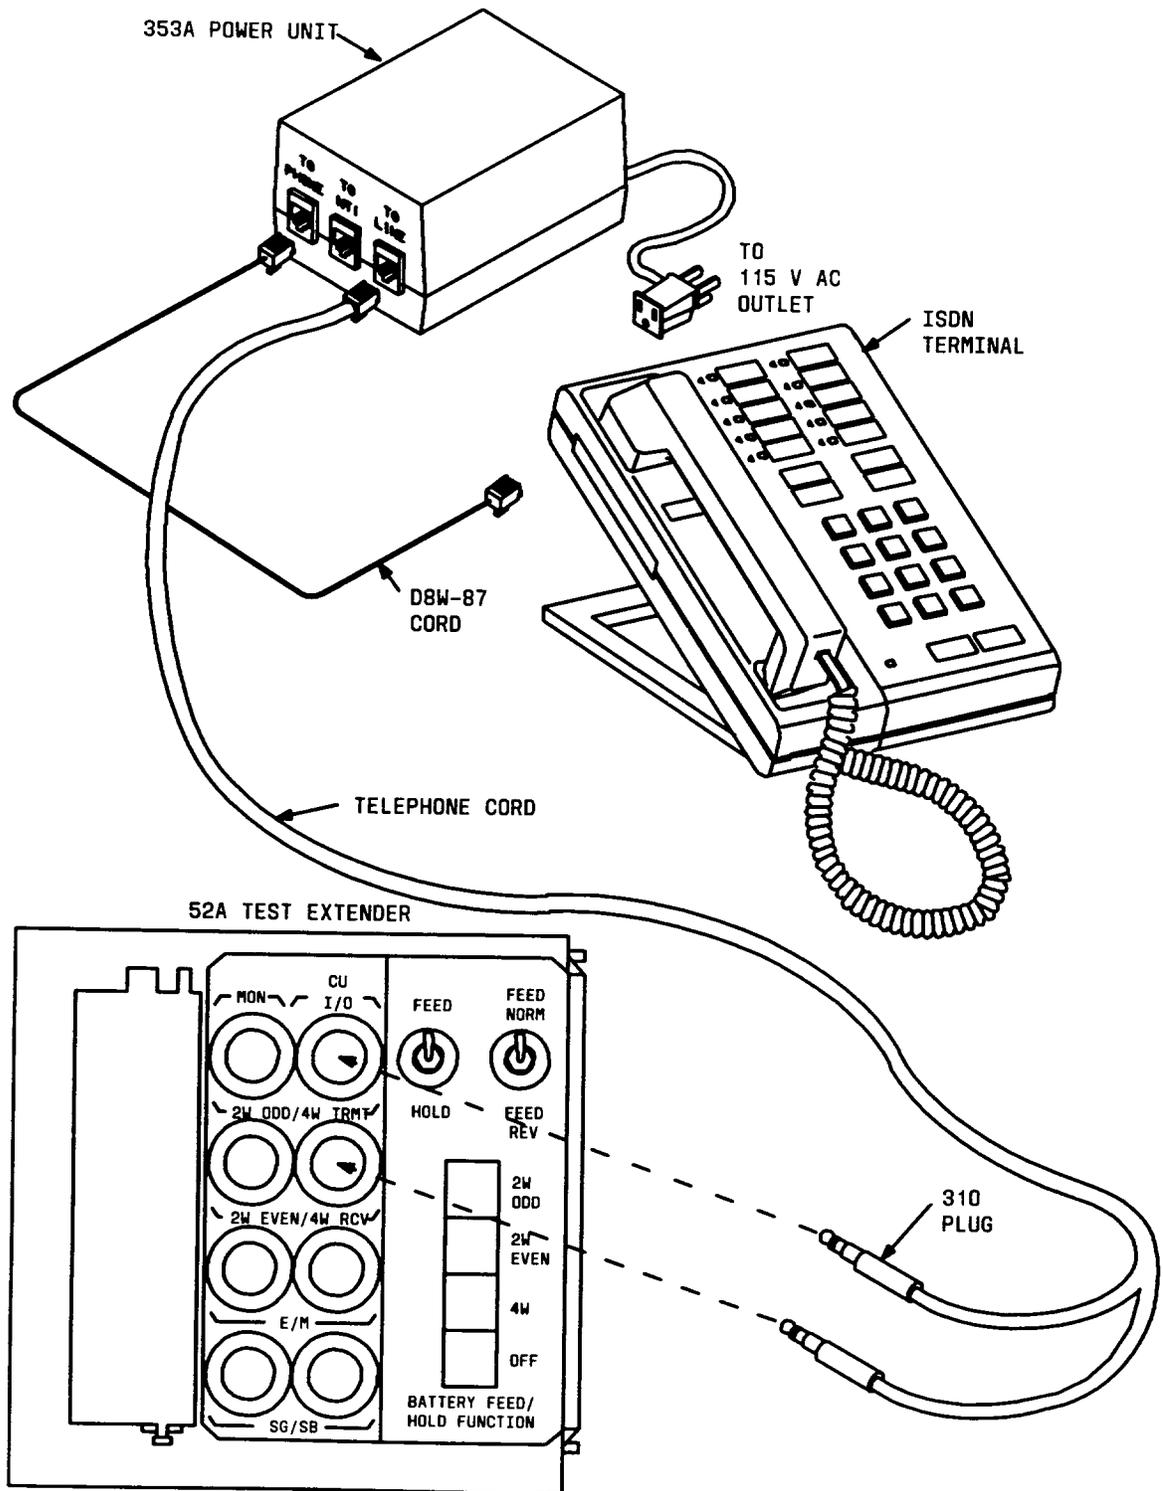

Figure 8 — Test connections to verify continuity between Series 5 RT and 5ESS switch
1. Obtain test equipment (shown in Figure 8):
- Modified telephone cord approximately 8 feet long or long enough to reach the top shelf of a 7-foot RT bay. The T (pin 2) and R leads (pin 5) of the 6-pin modular telephone plug must be terminated at the other end to tip and ring of a 310 plug. The T1 (pin 3) and R1 leads (pin 4) of the telephone plug must be terminated at the other end to tip and ring of a 310 plug. See Figure 8.
5. Connect apparatus as shown in Figure 8: